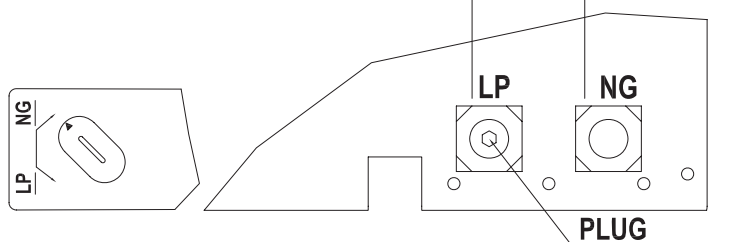

Figure 15
2. For NATURAL GAS, press knob using a flat screwdriver with a blade the thickness of a quarter and turn knob clockwise  until the knob locks into the NG position (see Figure 15). Selection valve must be locked in the NG position. Do not operate heater between locked positions!